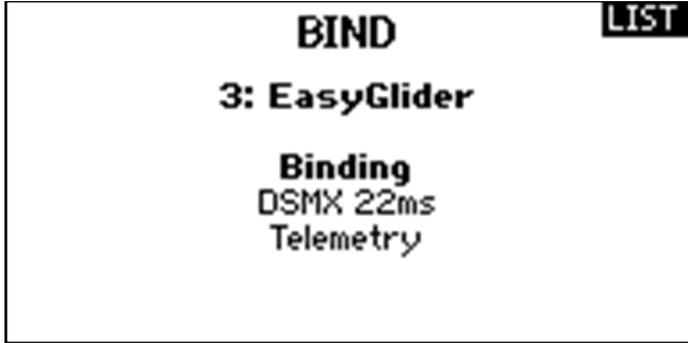

Figure 5: Binding was successful: Receiver and Telemetry detected
6. The binding process was successful when both the receiver (DSMX 22ms) and "Telemetry" were recognized (Fig. 5).